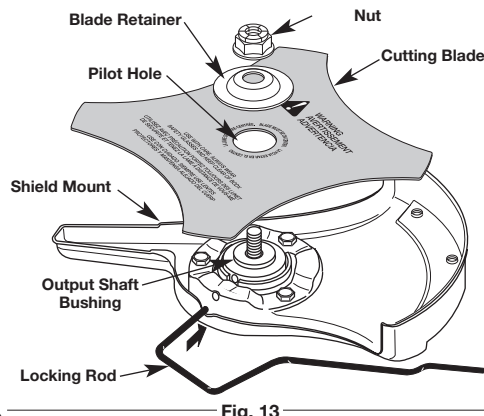

Fig. 13
- Place the cutting blade on the output shaft bushing (Fig. 13).